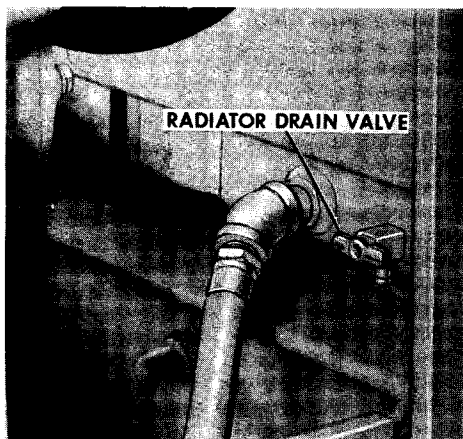

Figure 45
1. While the coolant is still hot, open the radiator drain valve and the engine block drain valve, Figure 45 and 46.